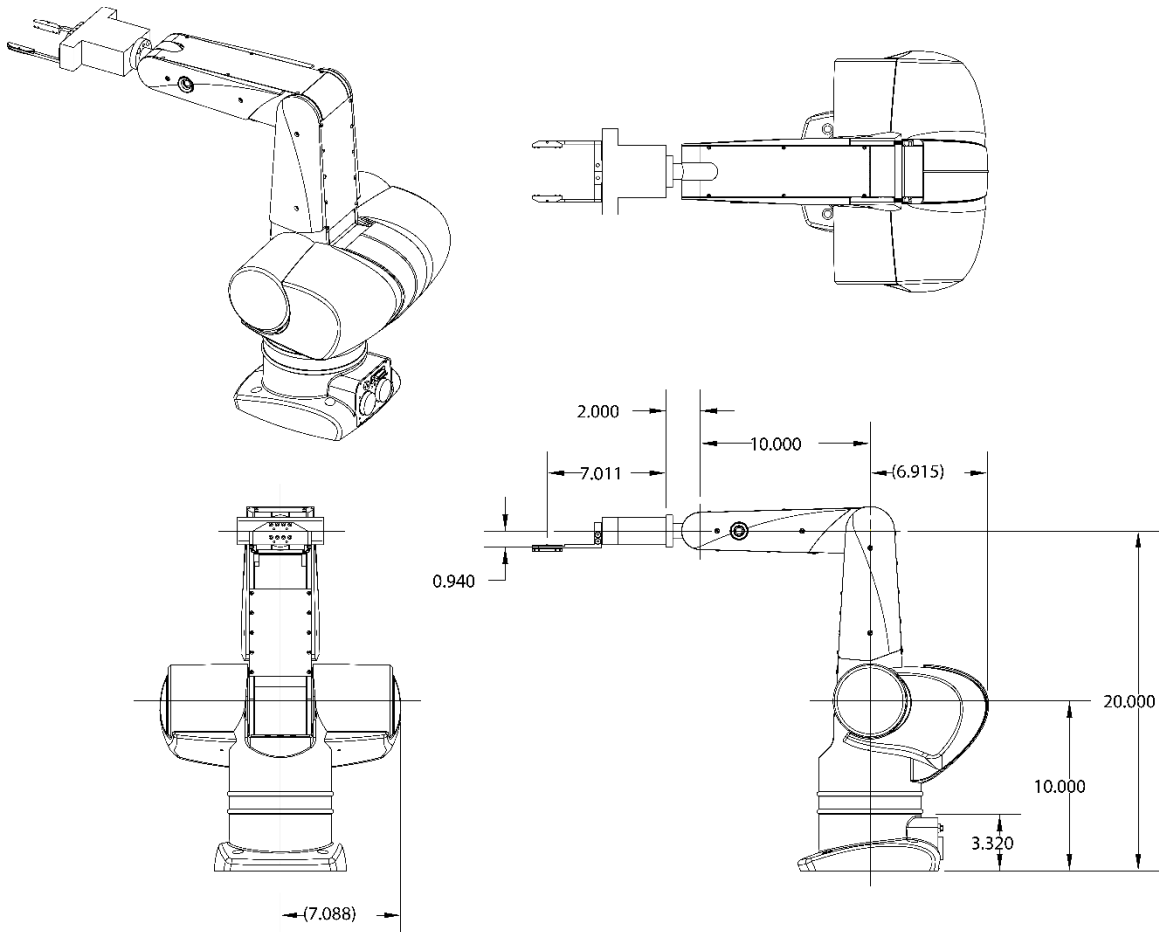

Figure 1.1 Physical Dimensions of CRS robot arm
5. Now you will calibrate the start position of your robot arm as discussed in lab lecture and by your TA. There are two positions of the robot arm that need defined. One is the “zero position” and one is the “start position.” The zero position is the position of the arm in Figure 1.1. Your TA will show you arrow and lines printed on the robot arm that will help you put the robot arm in the exact (or at least close) zero position. For the start position, it is nice to start at a resting position so you can easily and pretty accurately put the robot back in that position each time you start your code running. Move the robot arm so that the arm is facing forward. Shoulder joint pushed back as far as it will go. Elbow joint pushed down until it stops moving and is resting on the shoulder link. This is the “Start Position.” Since this is slightly different for each robot arm we need to run a quick calibration. In your CCS project open the file lab.c. At the top of that C file you will find the lines
- 1.2.3 Finish the D-H table below. Refer to Figure 1.1 for physical dimensions of CRS robot arm.